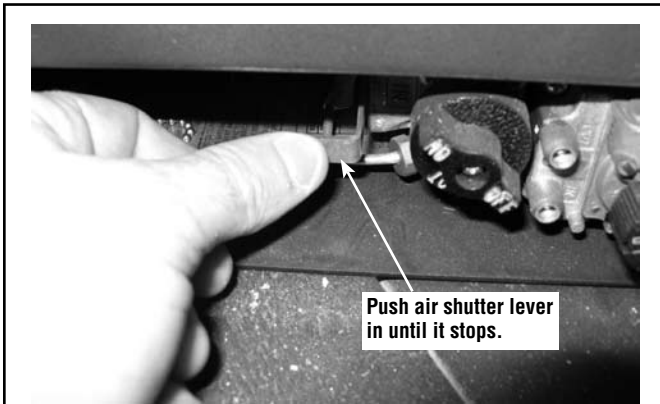

Figure 9 - Push In Shutter Lever
Step 7. Next, push the air shutter control lever in until it stops. See **Figure 9**.